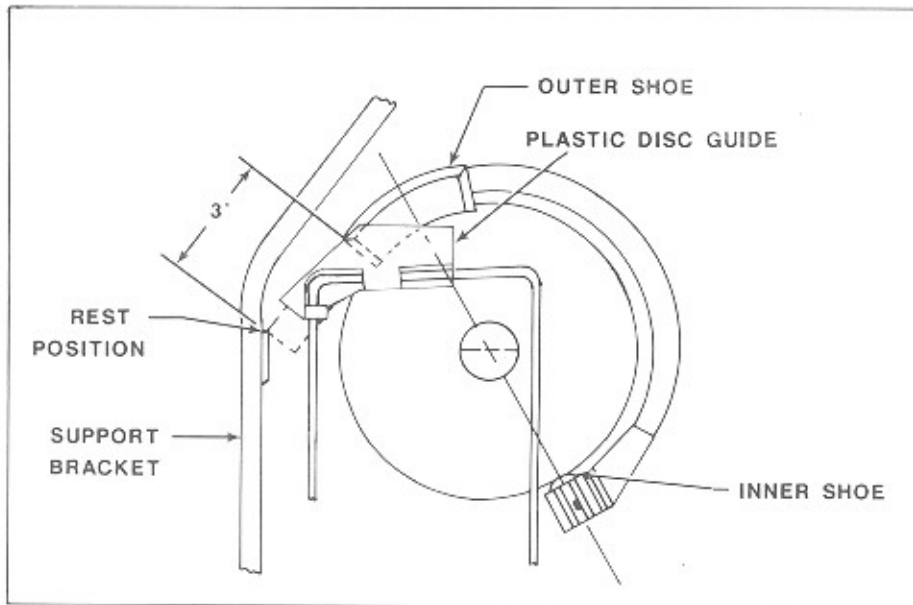

Figure 6-15. Magazine and Transfer Arm Position
- Using a 5/32-inch Allen wrench in the end of transfer motor shaft, turn motor shaft clockwise until the gripper bow lifts the disc out of the magazine, and the outer shoe is approximately 3 inches from its rest position on the back support (see figure 6-15).